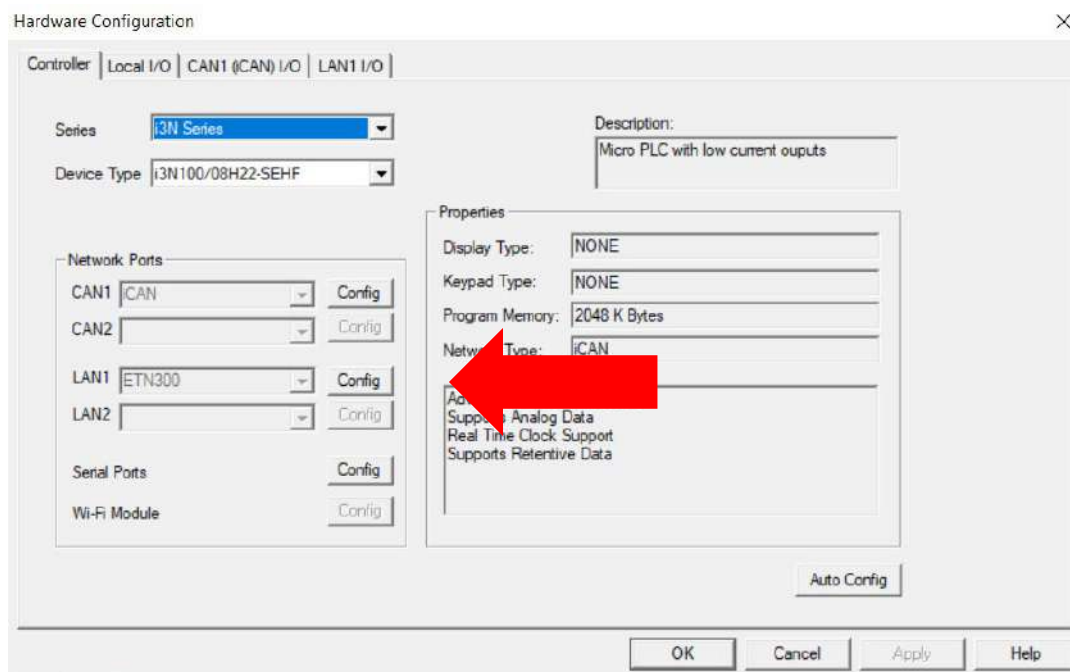

Figure 11.1 – Hardware Configuration Dialog
1. On the main i3 configurator screen, select the **Controller** menu and its **Hardware Configure** sub-menu to open the Hardware Configuration dialog (Figure 11.1).